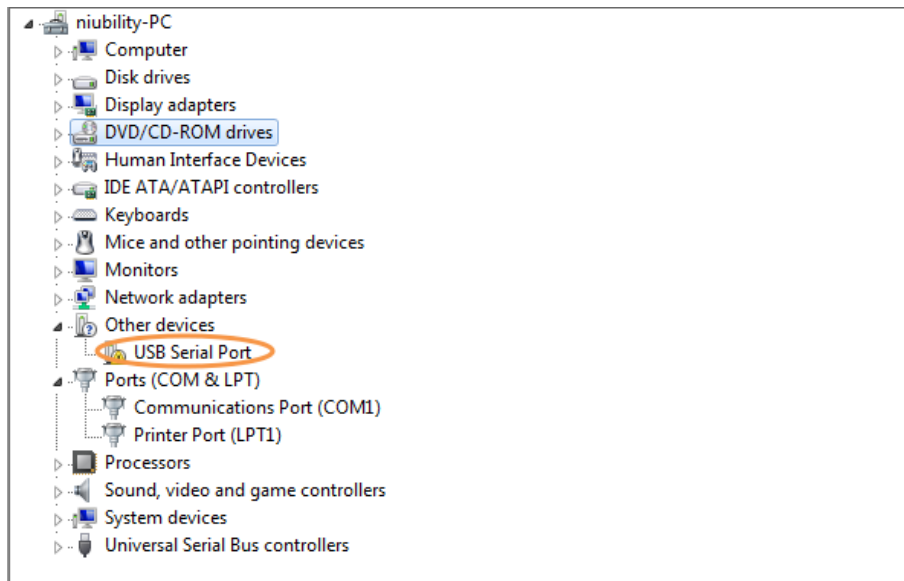

Figure 6-8 Unrecognized USB Serial Port on PC
- Power on the board, if you find an unrecognized USB Serial Port in Device Manager as shown in **Figure 6-8**.you should install the UART to USB driver before you run the demonstration.